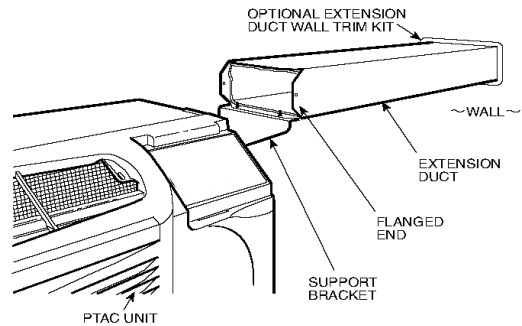

Fig. 10 — Extension Duct Attachment
6. Cut duct extension (be sure not to cut flanged end). See Fig. 10.
8. Mount extension duct by sliding extension duct into the wall opening (or previously installed wall trim kit mounted in the wall opening) and secure flanged end with 2 screws provided, to support bracket. See Fig. 10.